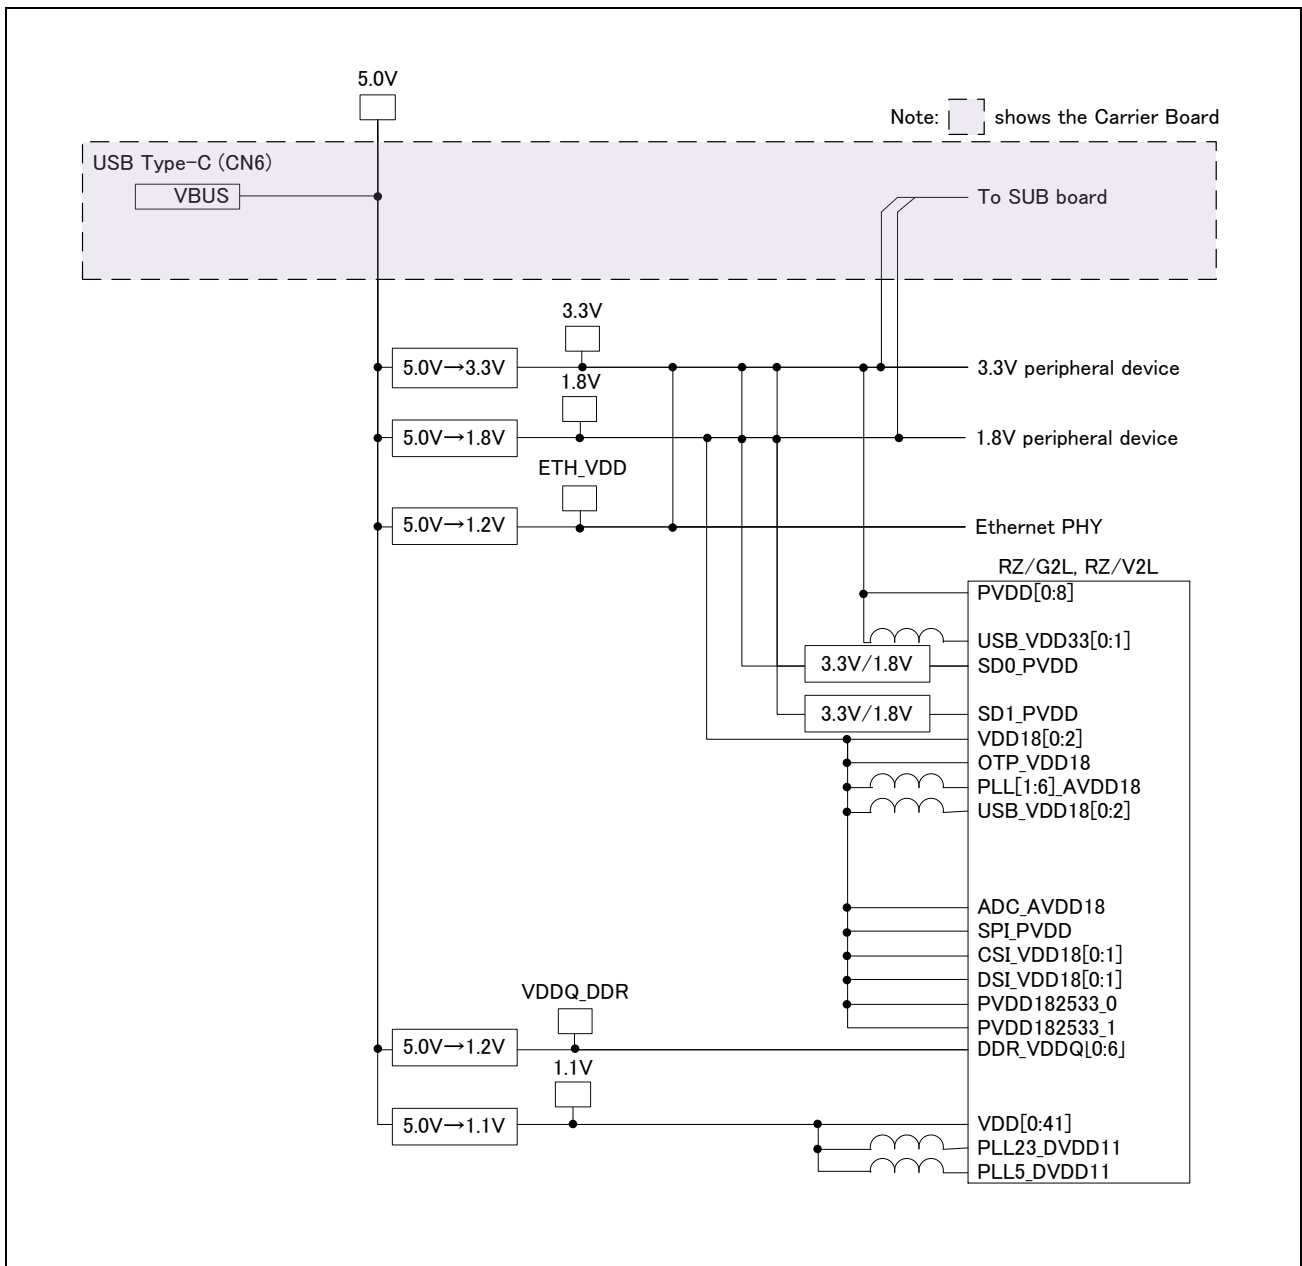

Figure 2.8 Block Diagram of Power Configuration
**Figure 2.8** shows a block diagram of power configuration for RTK9744L23S01000BE (Evaluation board Kit for RZ/G2L MPU).